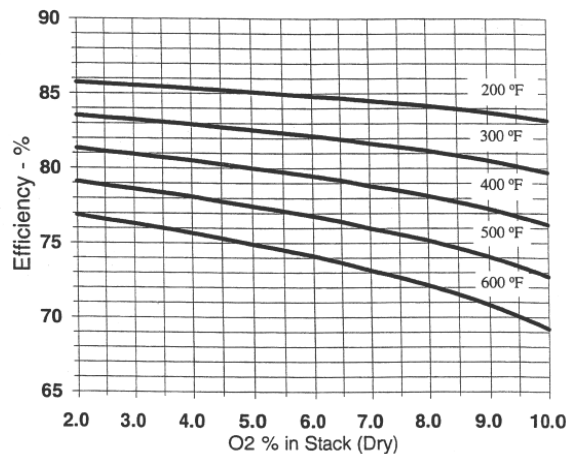

Figure 9: combustion efficiency for Natural Gas as function of O₂ and net stack temperature
4.5.8 Figure 9 shows combustion efficiency as a function of net stack temperature and O₂ in the stack for natural gas. Net stack temperature is the difference between the measured stack temperature and ambient temperature. This graph does not include radiation and convection losses from the boiler or heat exchanger.